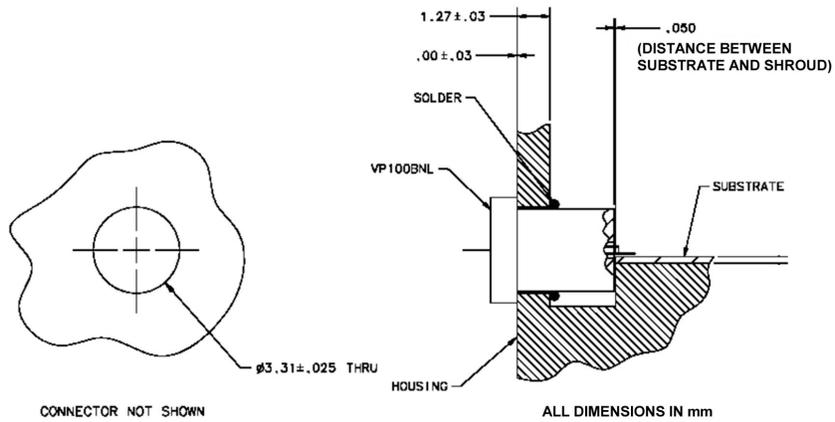

Figure 3. VP100BNL Mounting Hole Dimensions and Assembly Drawing for Thin-wall housing
- For a thin-wall housing, place one or two solder preform washers over the shroud inside the housing as shown in Figure 3.